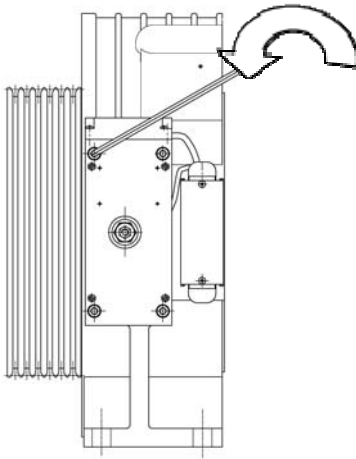

Fig.22 Rotation of installation bolt
1. Loosen installation bolt: counterclockwise turn the installation bolts as shown in Fig.22 on P18 (The supporting screw tubes can be loosened after installation bolts are released);